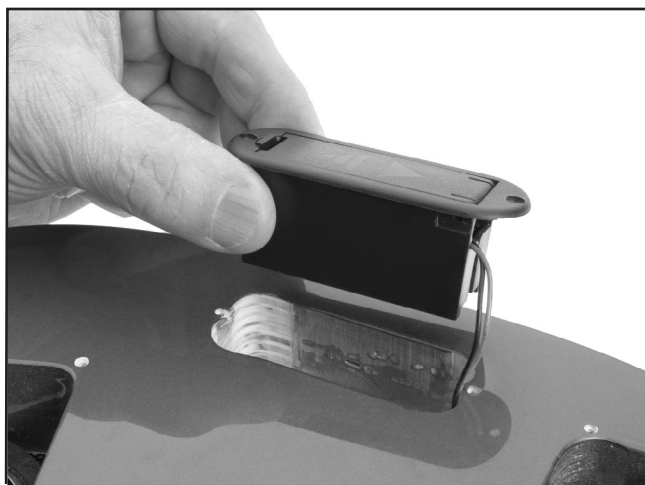

Figure 12. Installing battery case.
2. Slide the battery case (**Figure 12**) into the mortise, drill holes for two #2 x 1/4" black screws using a 1/16" bit, and secure with two #2 x 1/4" black screws.